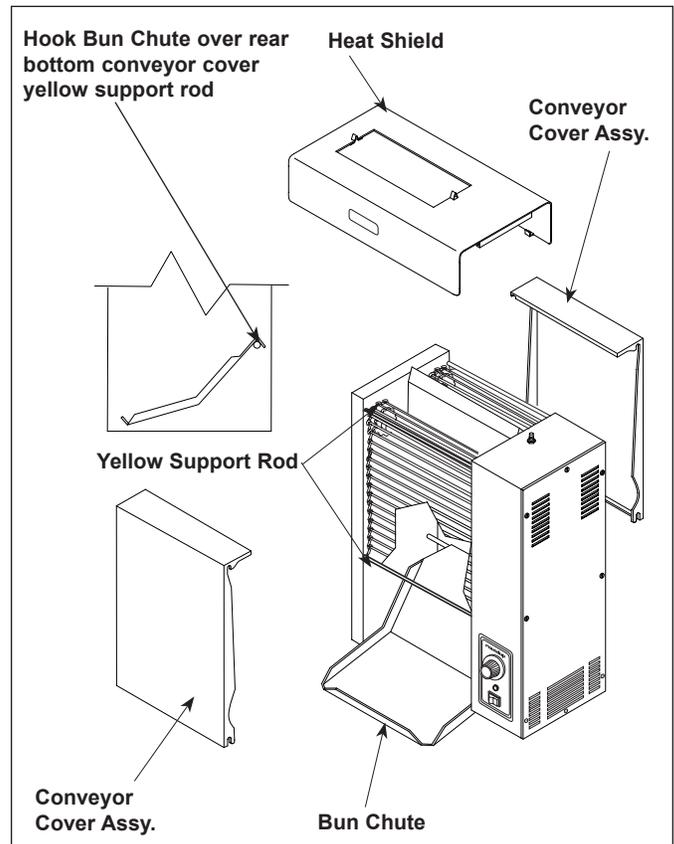

Figure 2. Installing Bun Chute
- Bun chute (Figure 2)
3. Install the bun chute (Figure 2).